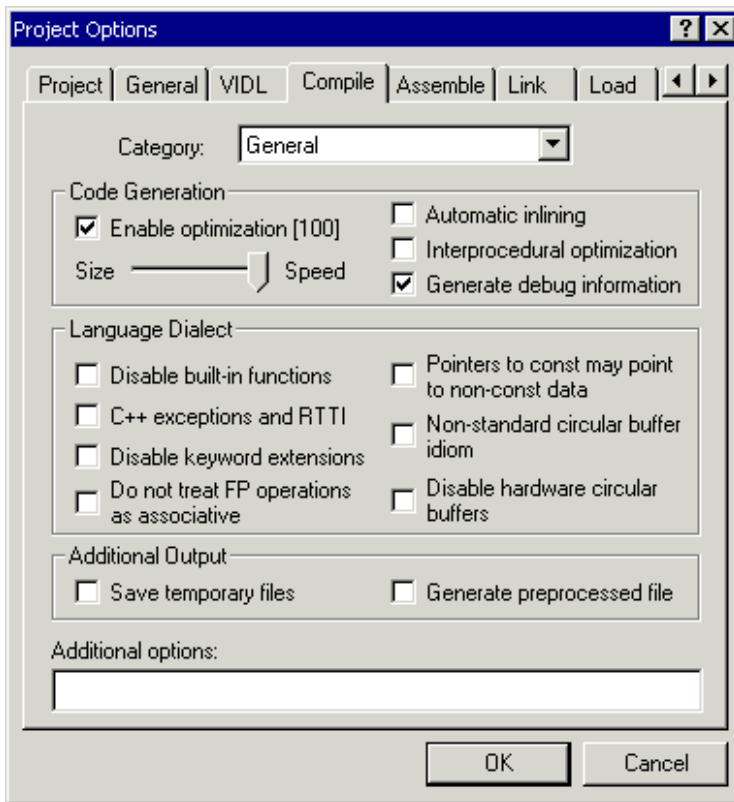

Figure 2-12. Project Options Dialog Box: Compile Page
7. Click the **Compile** tab to display the **Compile** page, shown in Figure 2-12 on page 2-20.